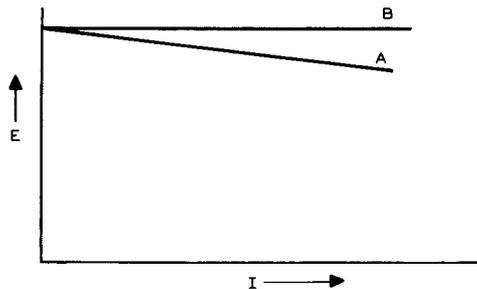

Figure 8
In Figure 8, line A represents the output of a typical power supply. As the current (I) increases, the voltage (E) decreases. Line B represents a regulated Power Supply where the voltage remains constant with increasing current.